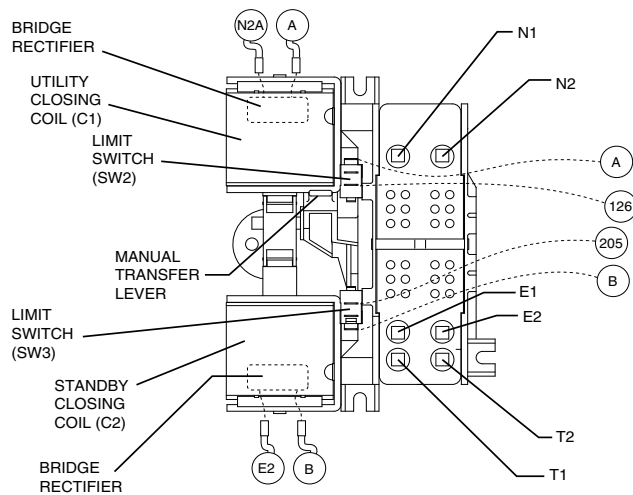

Figure 79. The "V-Type" Transfer Mechanism
See Figure 79. The utility closing coil (C1) utilizes rectified Utility source power to actuate the LOAD contacts to the “Utility” position. When energized, the coil will move the LOAD contacts to an “over center” position. The coil and the spring force will complete the transfer to “Utility.” The bridge rectifier, which changes the Utility source alternating current (AC) to direct current (DC), is sealed in the coil wrappings. If either the coil or the bridge rectifier replacement becomes necessary replace the coil assembly.